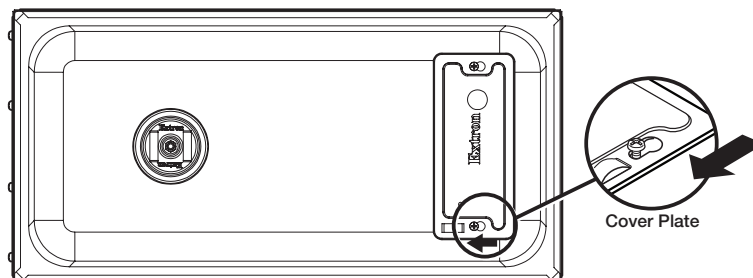

Figure 5. Removing the Cover Plate
7. **Remove the cover plate** — Loosen (do not remove) the two screws on the cover plate and remove it, as shown in figure 5.